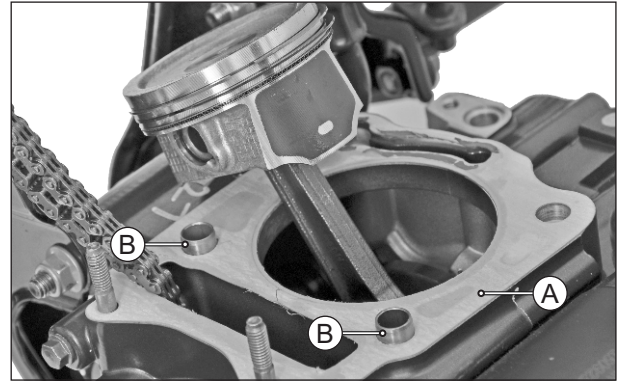

Fig. 3.81
- Remove the gasket cylinder (A) and tubular dowel (B) (2 nos). (Fig. 3.81)